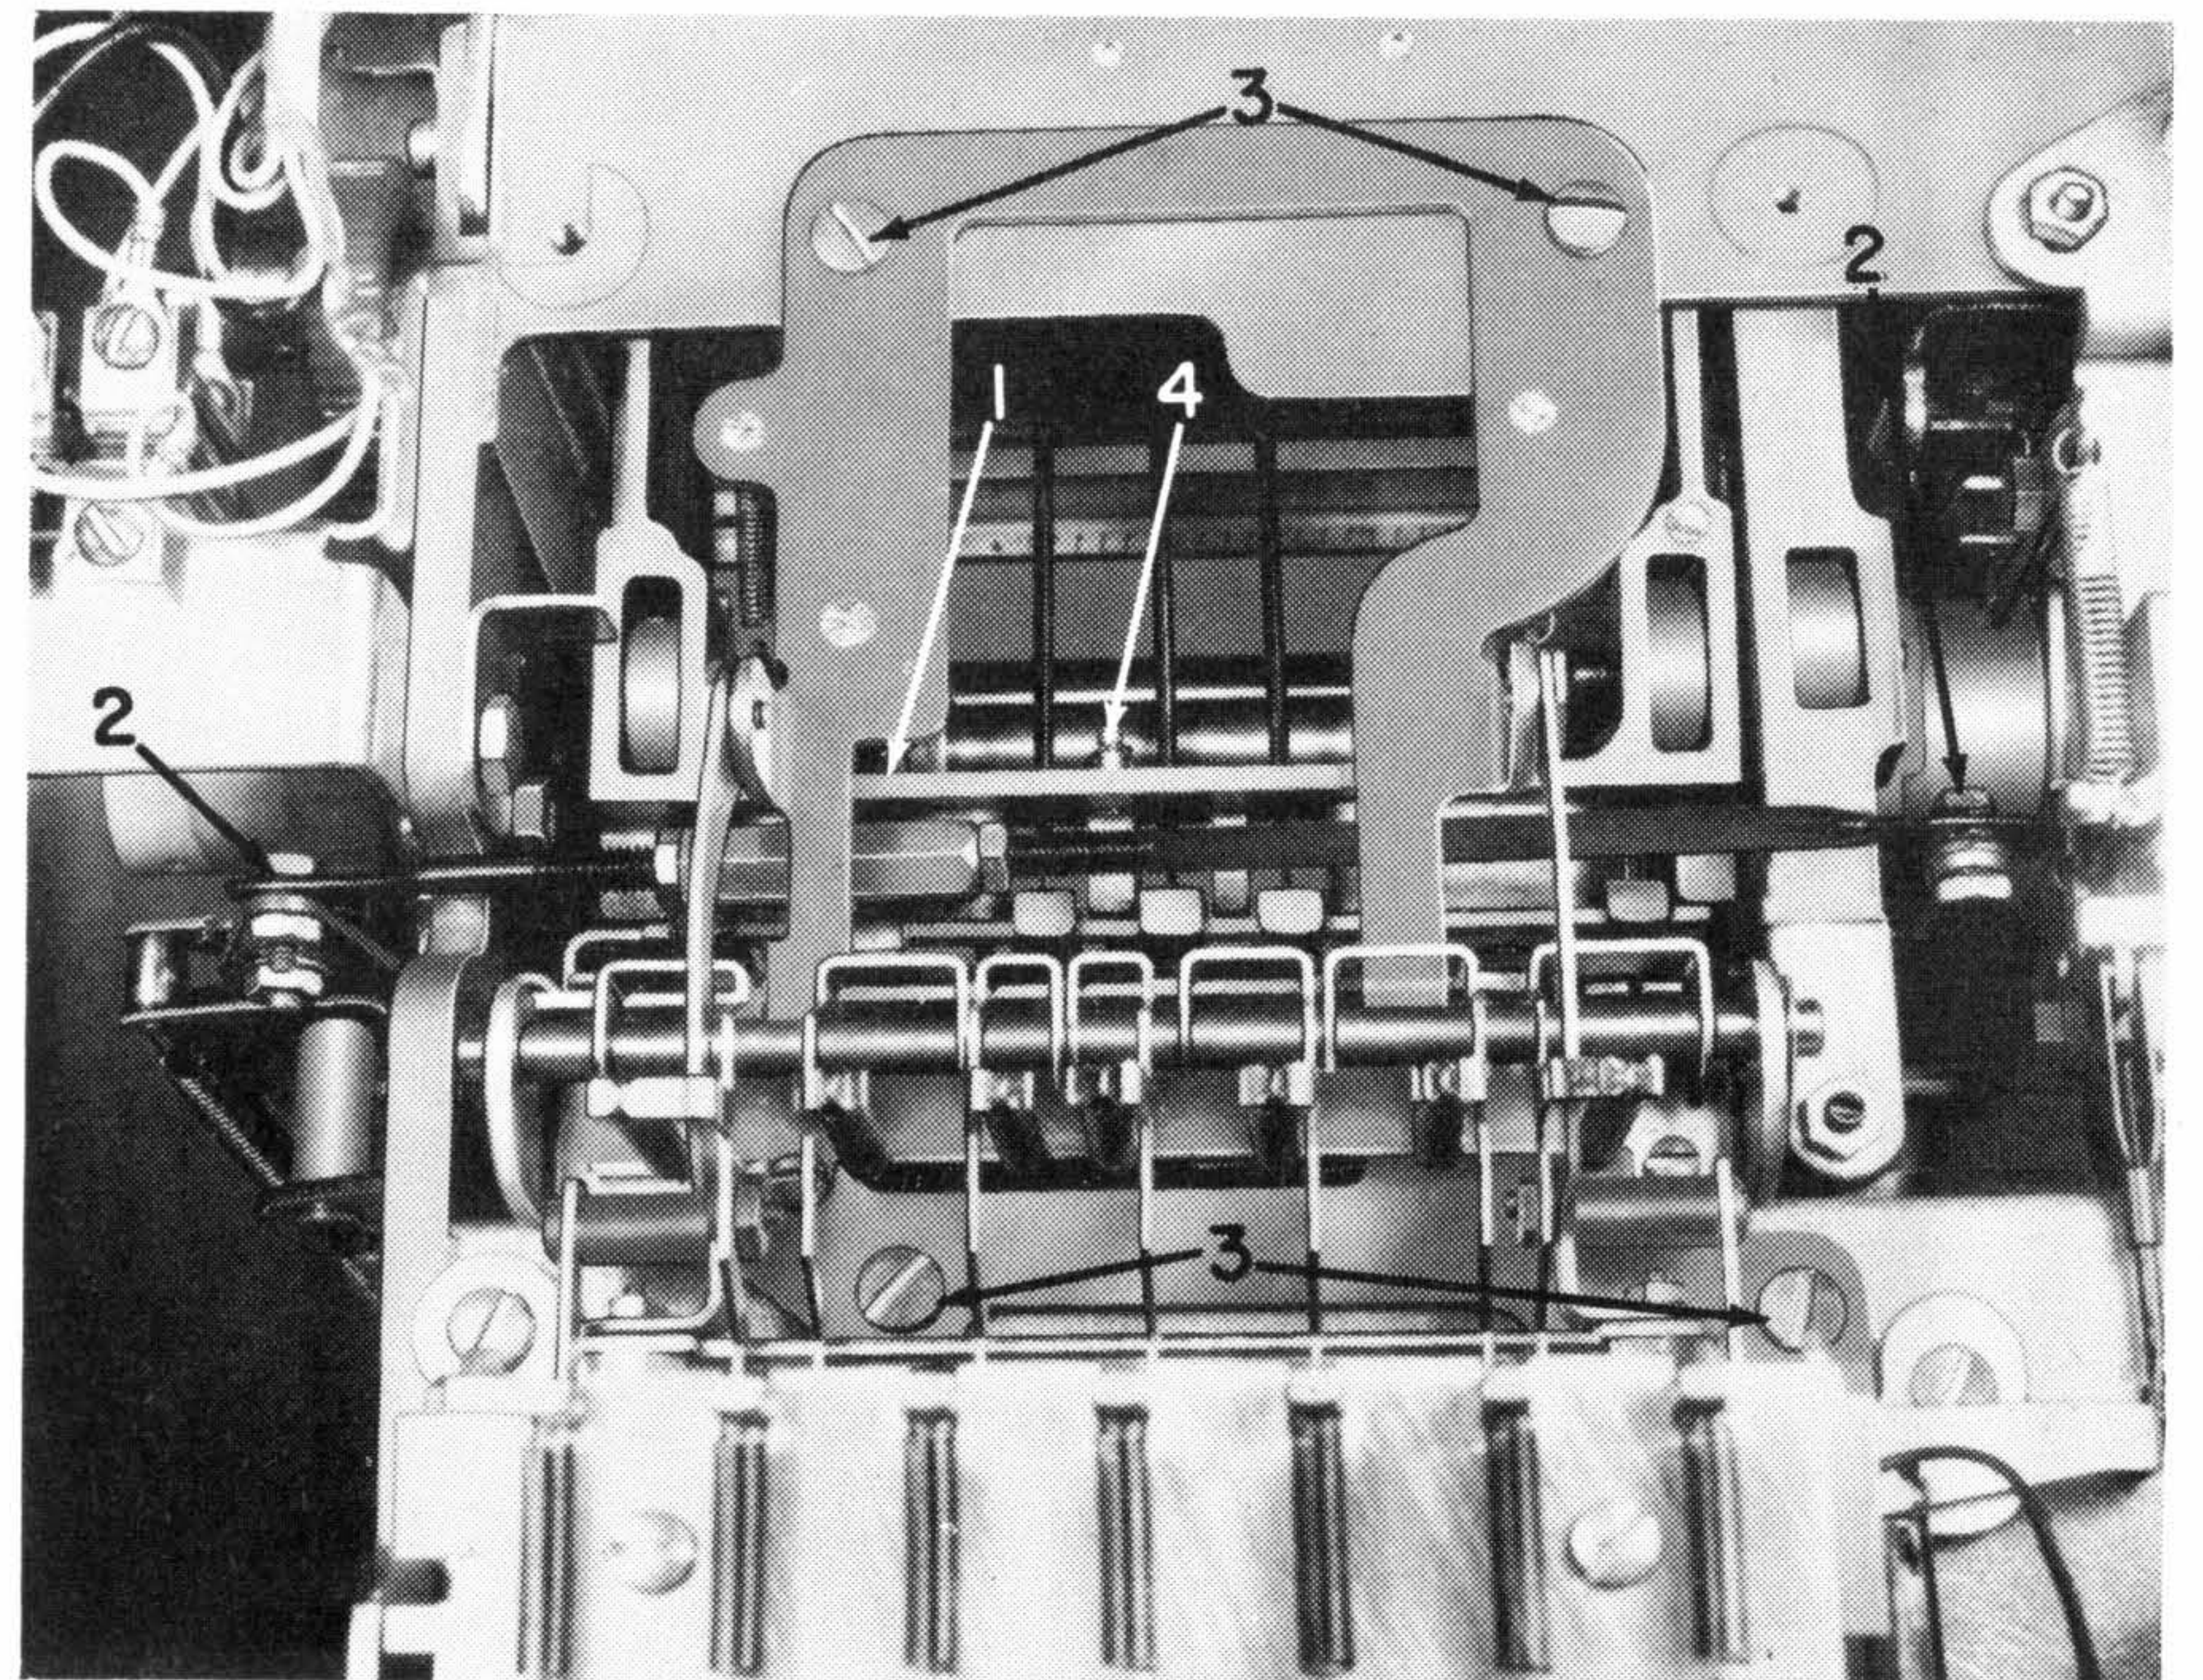

Figure 30. Differential Plate Removal
6. Unhook the check-latch-link spring (#1, Figure 30).
7. Remove the rotate-arm link (#2, Figure 30).
8. Scribe the position of the pusher-arm plate to the power frame and remove the four mounting screws (#3, Figure 30).
9. Remove the positive bail spring (#4, Figure 30).